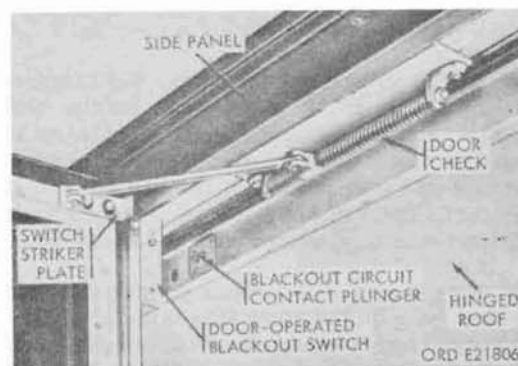

Figure 371. Hinged roof-operated blackout switch
c. Hinged Roof-operated Blackout Circuit Plungers (Fig. 371).
(1) Removal.
(2) Installation.